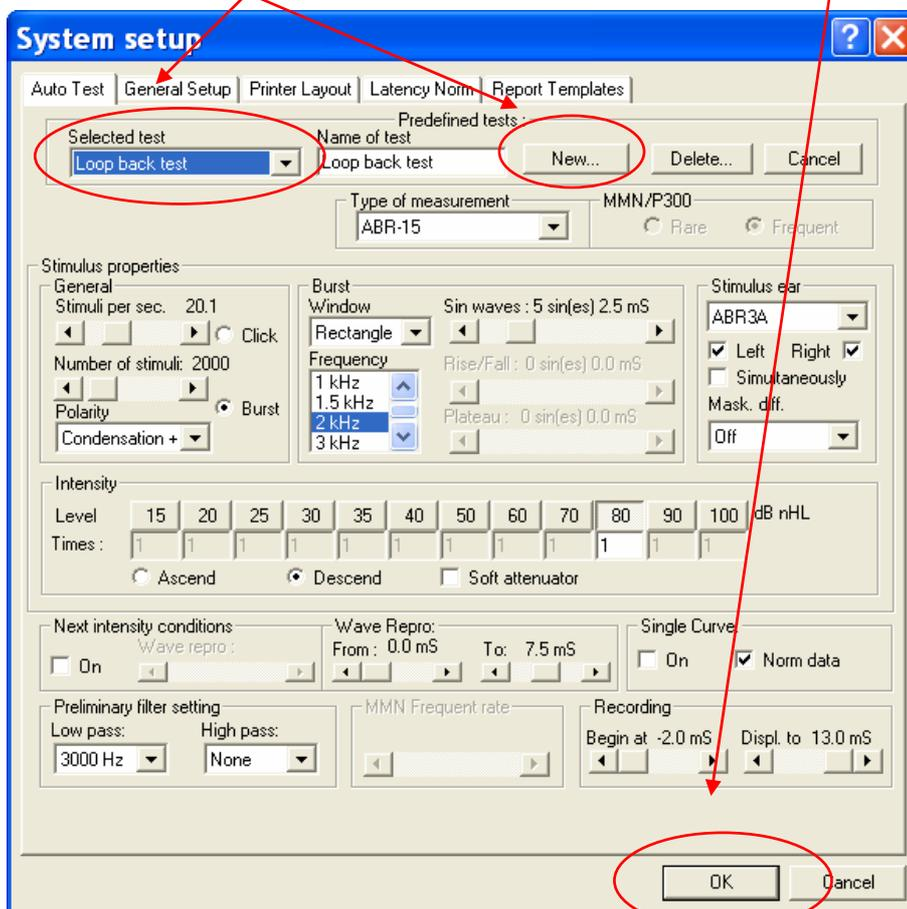

Figure 1: The parameters setting used for the curve in Figure 2
2. Select the 'Loop back test' from the system setup (click on 'file' and 'System set-up'). Press 'New' and fill in the parameters seen in Figure 1. Click on 'Ok' to save the test setup.